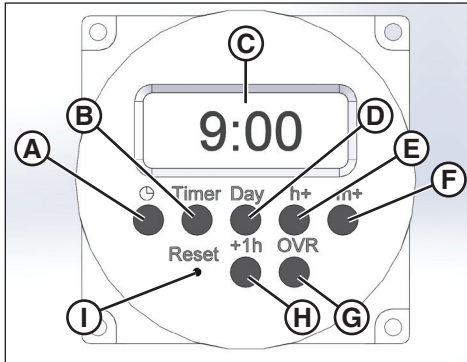

Figure 14
2. Press the OVR button (**G**, Figure 14) on the timer module to turn on Manual mode. Press again to turn off.
- a. With a blunt object press and release the Reset button (**I**, Figure 14). The timer screen (**C**) will flash.
- b. Press the Clock (**A**, Figure 14) and Hour (**E**) buttons simultaneously. The time will reset to 12:00am.
- a. If currently in Daylight Savings Time, press the +1h button (**H**, Figure 14). (If not, bypass this step.)
- b. Press and hold the Clock button (**A**, Figure 14) while simultaneously pressing the Day (**D**), Hour (**E**) and/or Minute (**F**) buttons until the correct day and time appears.
- Press the Timer button (**B**, Figure 14) once. ON will appear to the left of the display.
- Press the Day button (**D**, Figure 14) repeatedly to turn on or off each day the timer will turn on.
- Press the Hour (**E**, Figure 14) and Minute (**F**) buttons until the desired time for the timer to turn on appears.
- Press the Timer button (**B**, Figure 14) again. OFF will appear to the left of the display.
- Press the Day button (**D**, Figure 14) repeatedly to turn on or off each day the timer will turn off.
- Press the Hour (**E**, Figure 14) and Minute (**F**) buttons until the desired time for the timer to turn off appears.